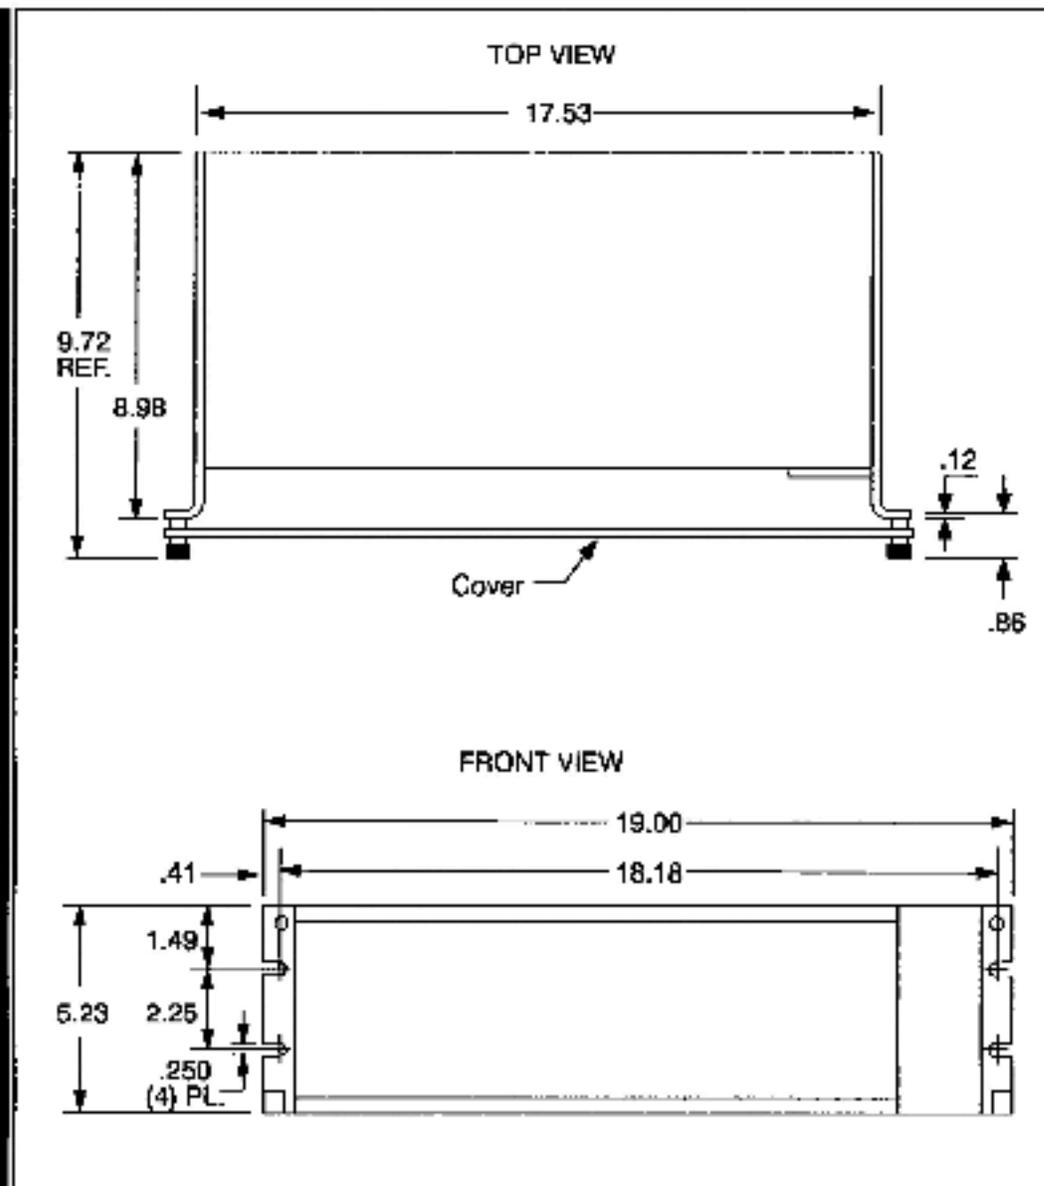

Figure L2.3 - Fiber-Optic Rack Mounting Dimensions
- Step 2. Install the rack using #8 screws. Allow at least 1" to 2" clearance around the rack for adequate ventilation. Rack mounting dimensions are shown in figure L2.3.